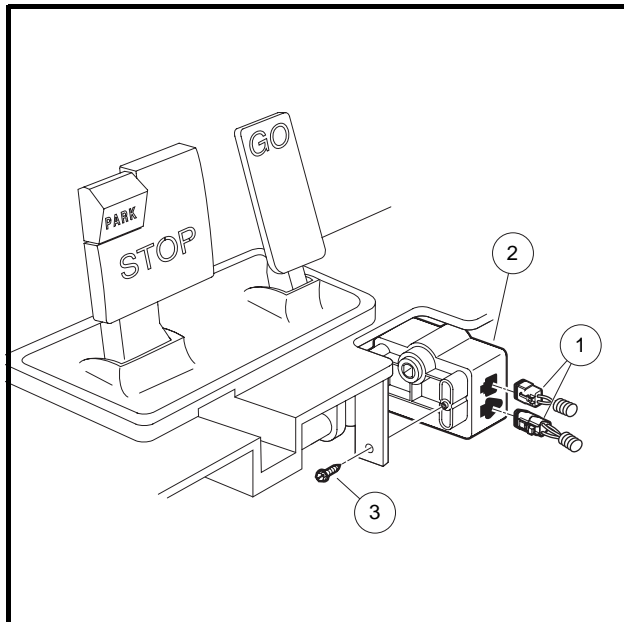

Figure 12-7 Motor Controller Output Regulator
3. Disconnect the two-pin and three-pin connectors (1) from the MCOR (2) (**Figure 12-7, Page 12-7**).
4. Remove the hex-head screws (3) connecting the MCOR to the pedal group.
1. Secure the MCOR (2) to the pedal group with two hex-head screws (3) (**Figure 12-7, Page 12-7**). Tighten screws to 23 in-lb (2.6 N·m).
2. Connect the two-pin and three-pin connectors (1) from the wire harness to the MCOR.